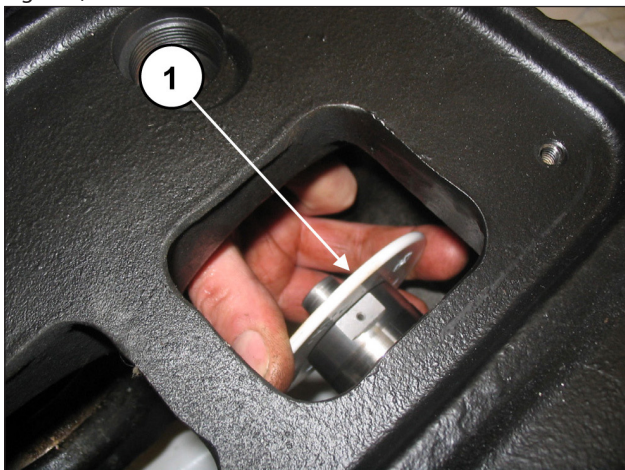

Fig. 116
Slip the spray-guard rings off the piston heads (pos. ①, Fig. 116).